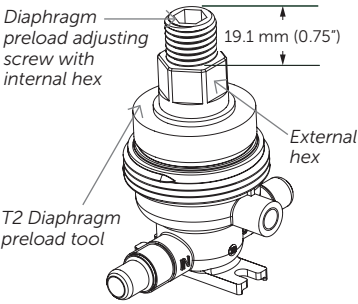

Figure 1.
11. Refer to Figure 1. Make sure the diaphragm preload tool adjusting screw is out 19.1 mm (¾") before placing the diaphragm preload tool (T2) onto the retainer nut (P11).